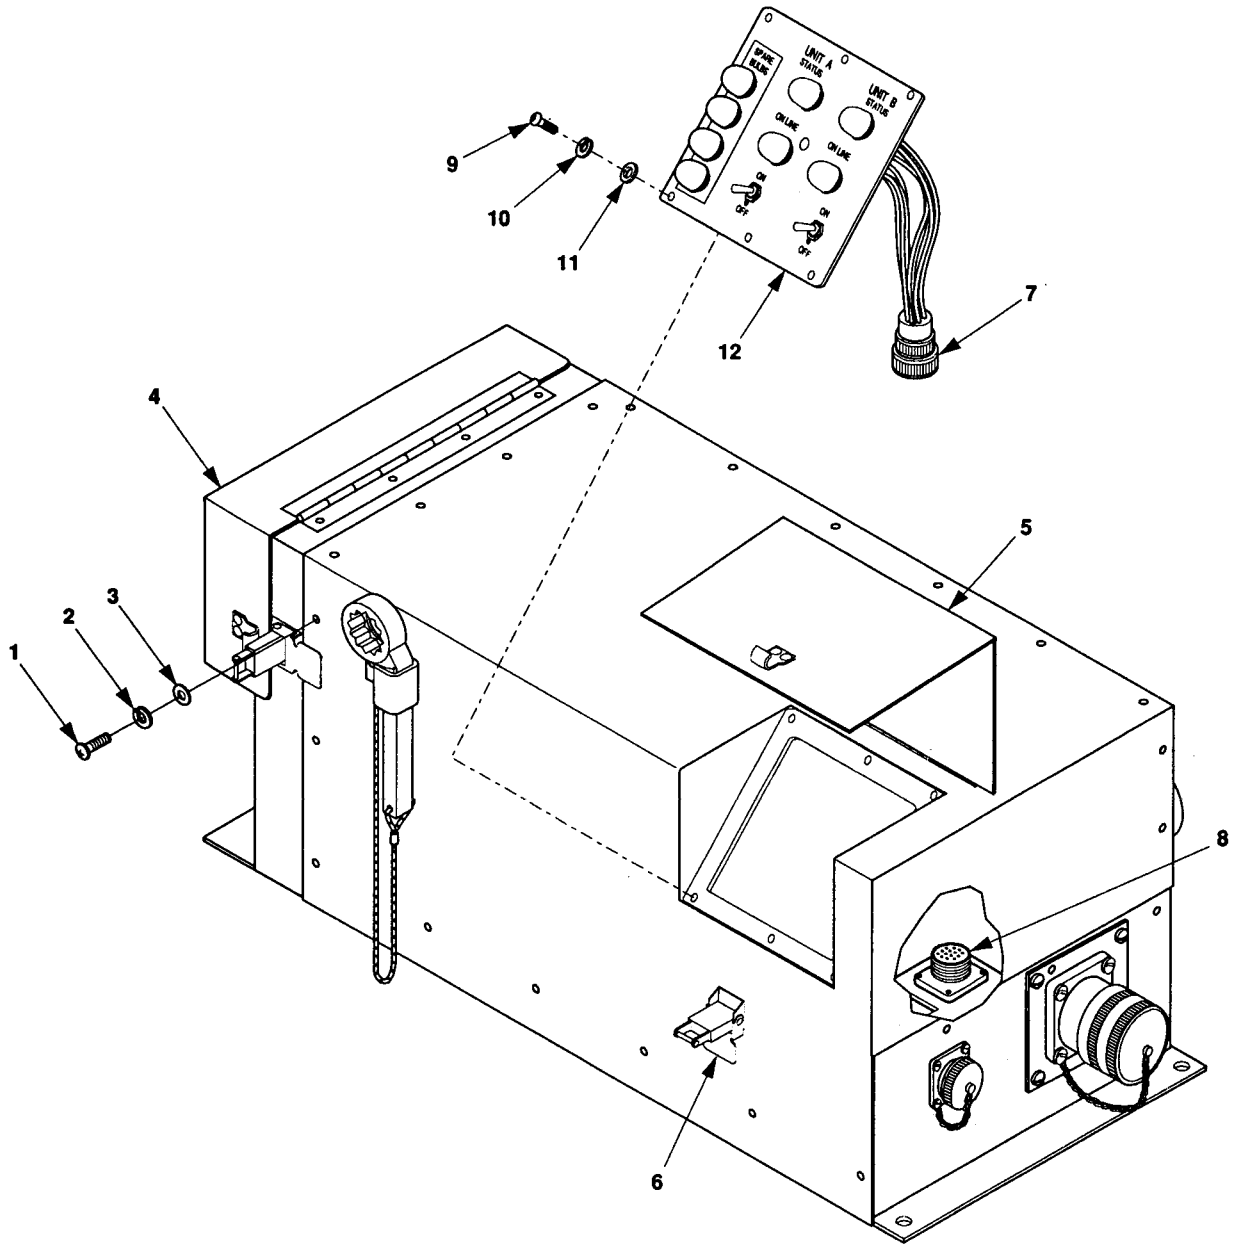

Figure 5-13. Control Panel, Wiring Harnesses, and Wiring Leads Maintenance,
- 1. Release clamping catch (6, figure 5-13) and open the control panel access cover (5).
1. Remove 21 machine screws (1, figure 5-13), lock washers (2), and flat washers (3) that secure the switch box access cover (4) to the switch box assembly. Discard lock washers.
1. Remove 21 machine screws (1, figure 5-13), flat washers (3), and lock washers (2) that secure the switch box cover (4) to the switch box assembly.